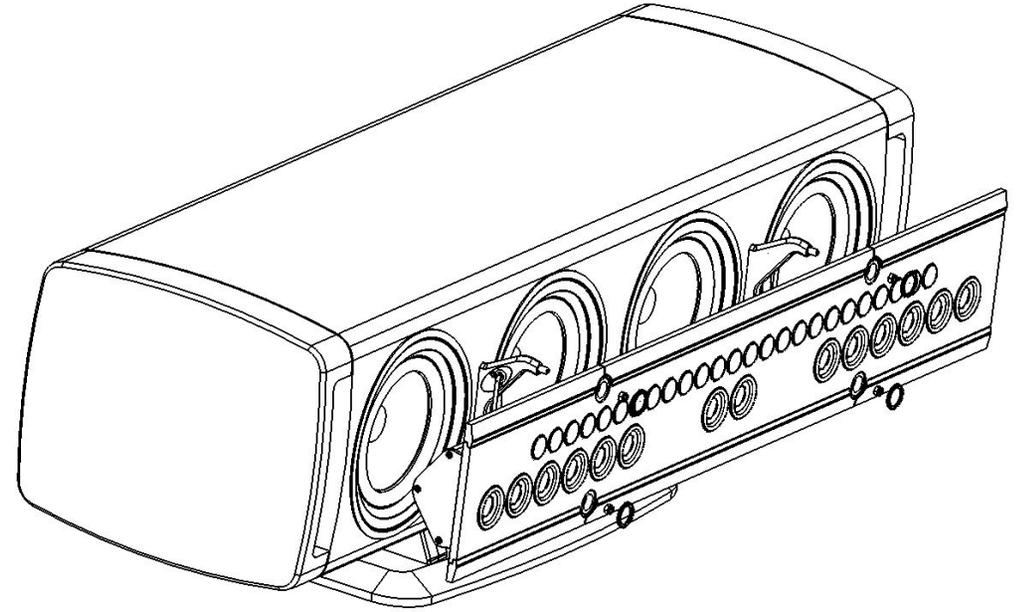

FIG.7
8. Carefully, position the Tweeter/Midrange array over the four bolts. Note the correct orientation is with the tweeter array above the midrange array. (FIG.7)